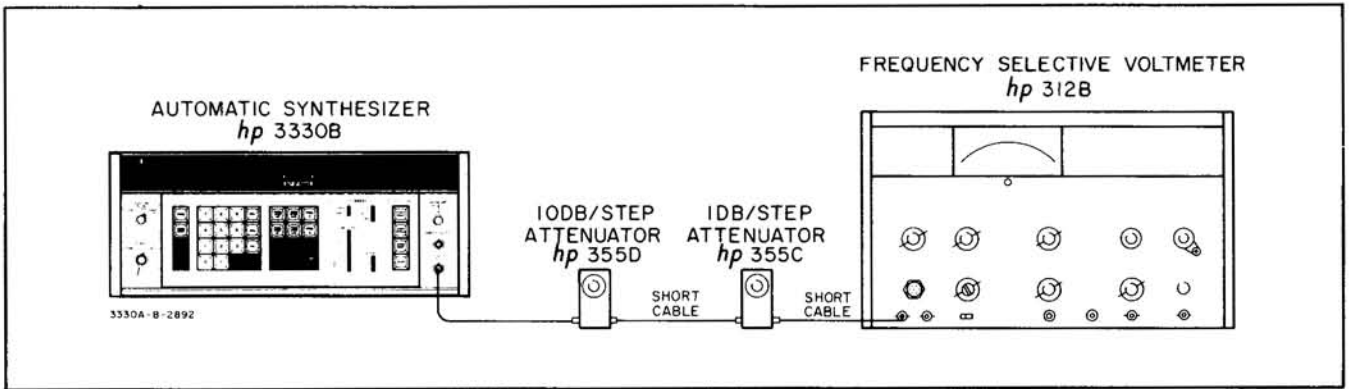

Figure 5-1. Harmonic Distortion.
e. Replace the spectrum analyzer with the frequency selective voltmeter and attenuators as shown in Figure 5-1.